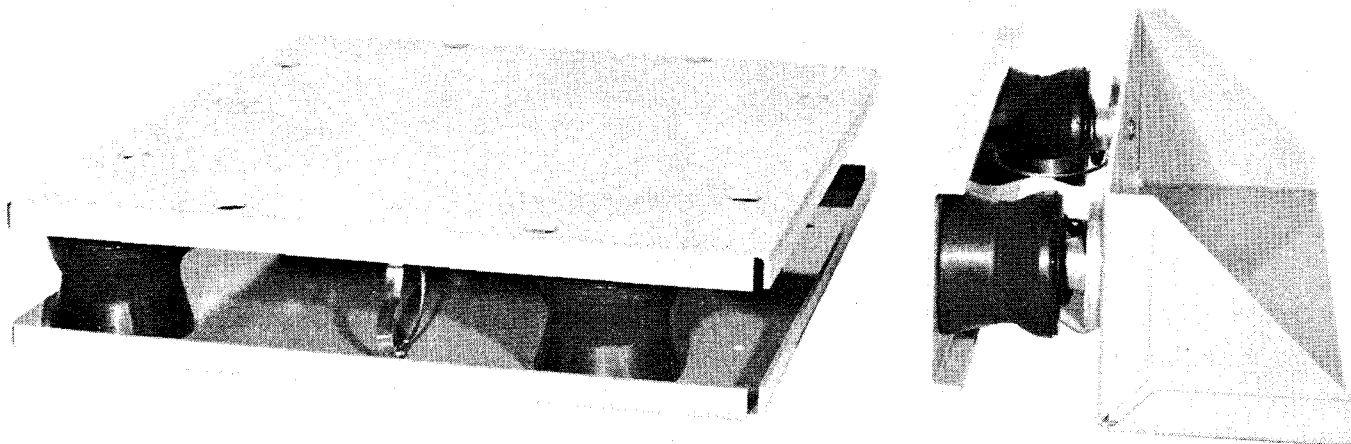

Figure 1-2. Electrical Equipment Shock Mount Base MT-3399/U
1-17. The MT-3399/U (figure 1-2) is used in shipboard installation as a resilient shock mounting base on which the units of the AN/URT-23(V) are stack mounted. It consists of an open frame structure attached to a flat mounting plate through vibration isolators. These isolators protect the units by damping shock and/or vibration of continuous or intermittent origin. Brackets are attached to the sides of each unit to enable the units to be secured to each other and in turn to the MT-3399/U. The MT-3399/U is anchored to the deck of the ship or some other suitable horizontal mounting surface. In addition, a sway brace secures the top of the stack to the bulkhead of the ship. This limits lateral motion, and thus, reduces the required sway space. The sway brace also prevents the stack from tilting when an equipment chassis is withdrawn from its case. The MT-3399/U and mounting brackets are constructed of aluminum to reduce the equipment's magnetic signature, thus making the mounting system suitable for use in configurations where the use of magnetic material is critical (such as on minesweepers).